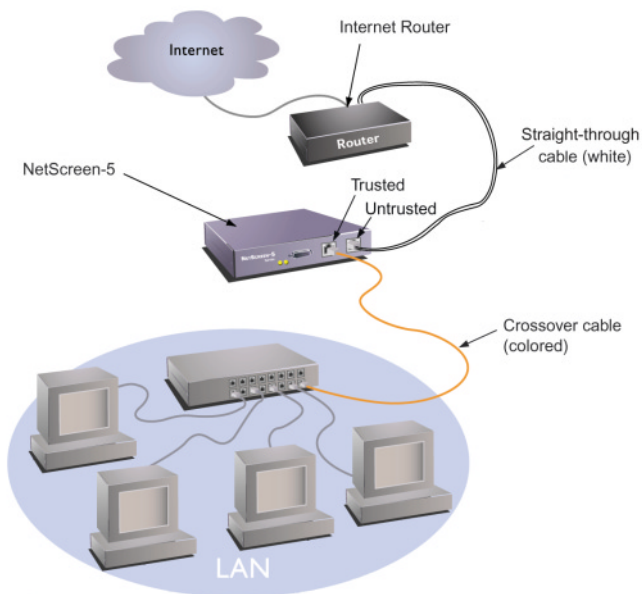

Figure 2-1 Typical Multiple-Workstation Configuration—Router Connected to the Untrusted Port, LAN Connected to the Trusted Port
- Figure 2-1 “Typical Multiple-Workstation Configuration—Router Connected to the Untrusted Port, LAN Connected to the Trusted Port” on page 2-2.